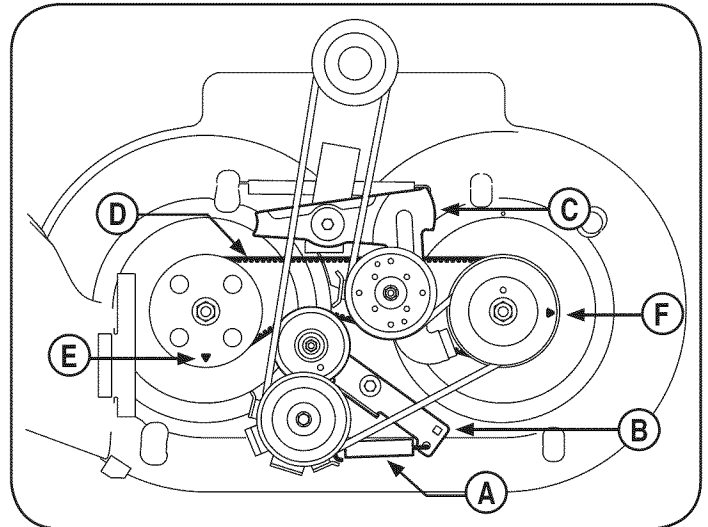

Figure 25
4. Remove spring (A) from timing bracket and deck, Figure 25.
6. Pivot the idler timing bracket (B) to route belt around idler pulley, Figure 25.
7. Pivot idler arm assembly (C) and remove belt (D) from spindle assemblies, Figure 25.
- a. Turn the spacer spindle assembly (E) so that the arrow punched on the spindle is facing the front of the mower, Figure 25.
- b. Turn the drive spindle assembly (F) so that the arrow punched on the spindle is facing to the outside of the cutting deck, Figure 25.